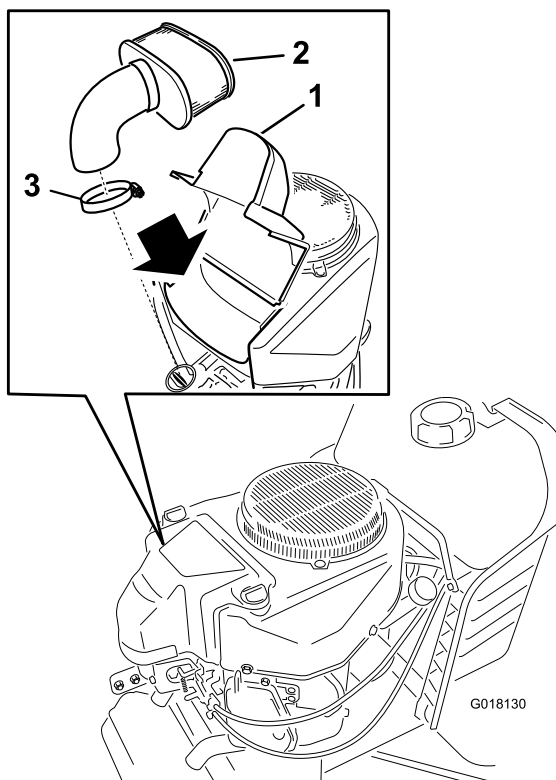

Figure 20
5. Lift the cover and remove the hose clamp that secures the air cleaner assembly to the engine (Figure 20).
6. Loosen the hose clamp and remove the element (Figure 20).